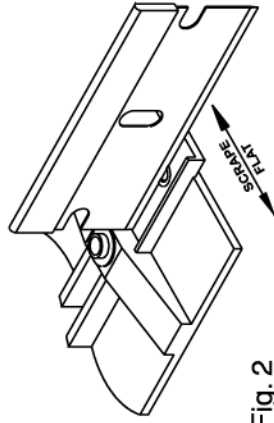

Fig. 2
- 2) As the resulting surface will take the place of the Cover, scrape it perfectly flat with a sharp new single edge razor blade as shown in Fig. 2.